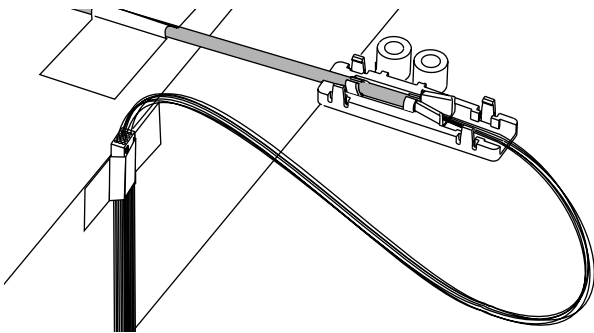

Figure 25
*Leave a small fiber loop between the BTF body and the 900  $\mu\text{m}$  assembly to prevent fiber breakage during later steps in this procedure (Figure 25).*